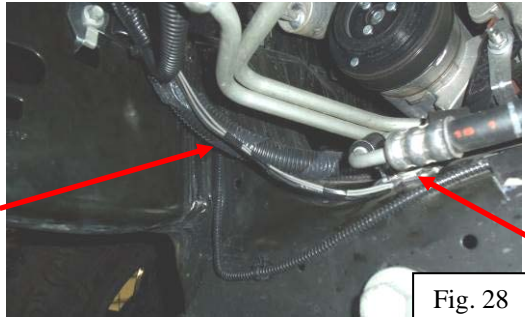

Fig. 28
22. Remove the 8mm bolt holding the power steering lines to the cross member (Fig. 28). Attach the gray and black ground wires from the relays using the 8mm bolt. Tighten the bolt. Zip tie the wires to the factory wire harness that is along the frame rail.